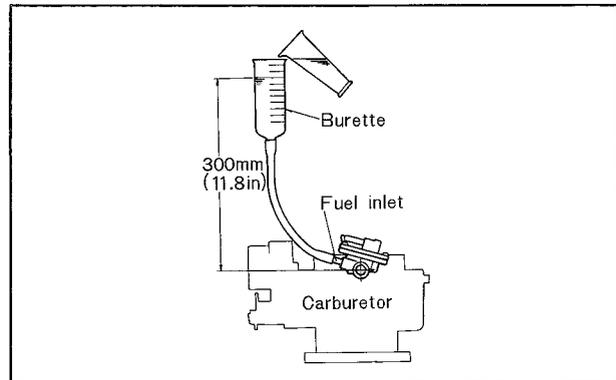

Fig. 4-8 Checking fuel discharge
3. Set the burette at the fuel inlet of the carburetor and fill it with fuel as shown in Fig. 4-8.